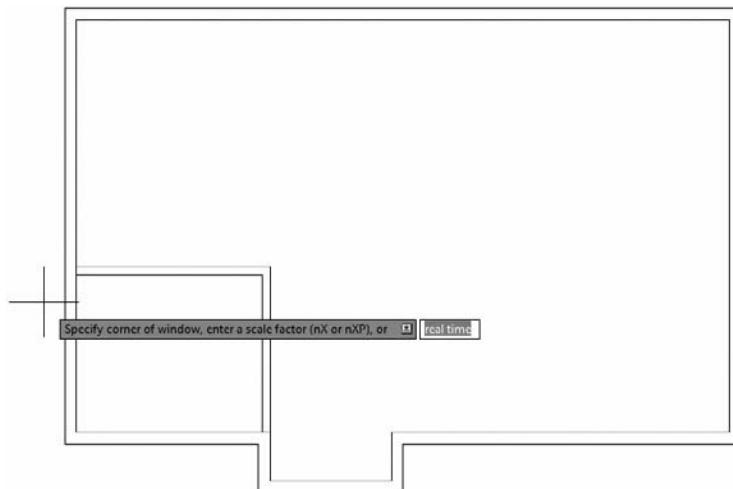

FIGURE 4.21 Positioning the cursor for the first click of the ZOOM command
1. Enter `Z.`. Then move the crosshair cursor to a point slightly below and to the left of the upper T-intersection (see Figure 4.21), and click in a blank area outside the floor plan.